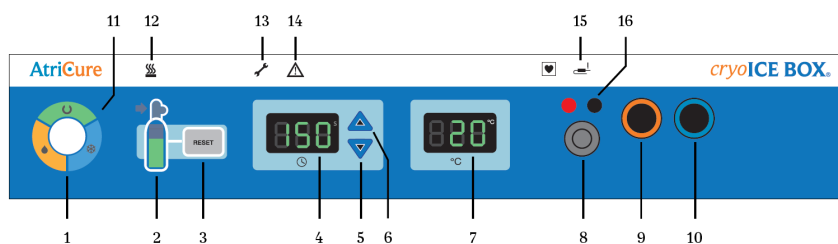

Figure 1: AtriCure *cryoICE* BOX Front Panel
Illustrations of the *cryoICE* BOX front panel (Figure 1) and rear panel (Figure 2) are shown below.
cryoICE Probe Temperature Display Accuracy (see figure 1 item 7)